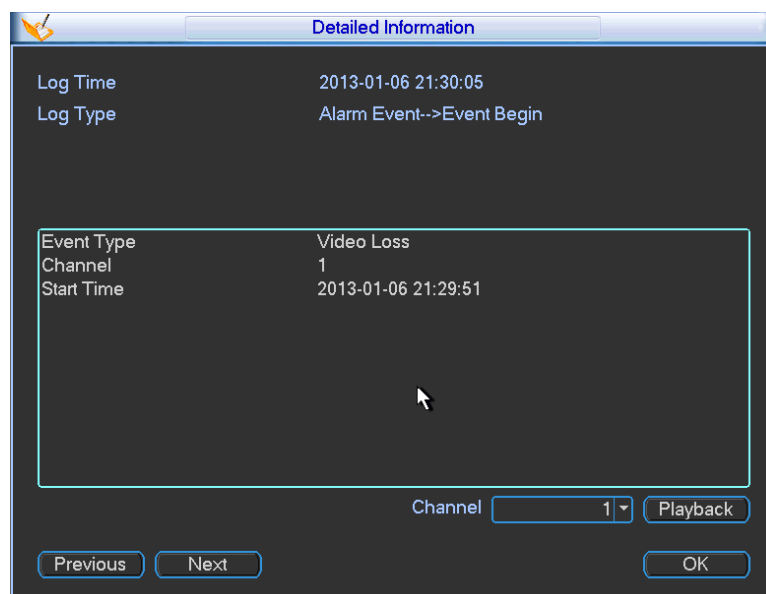

Figure 5-13
- Details: Click the Details button or double click the log item, you can view the detailed information. See Figure 5-13. Here you can use rolling bar to view information, or you can use Page up/Page down to view other log information. For the alarm event log such as video loss, you can click the Playback button at the bottom right corner to playback.